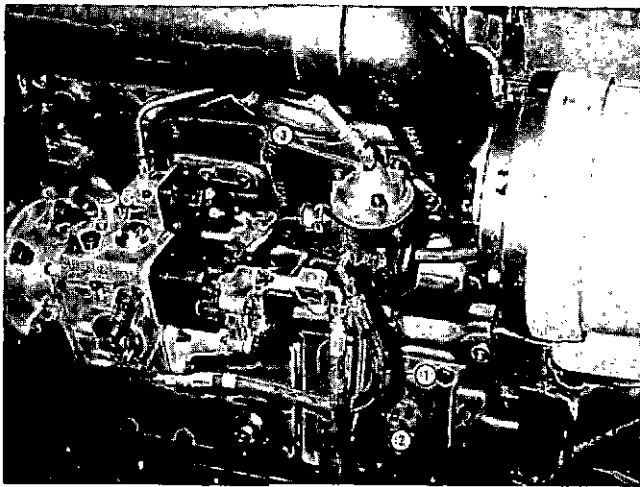

Fig. 10-3-1, V41020. Aneroid control and fuel flow
The aneroid control, Fig. 10-3-1, is a fuel by-pass system that responds to engine air manifold pressure. The aneroid limits fuel manifold pressure when the air manifold pressure is below a preset value. When accelerating the turbocharged engine from speeds below normal operating speed range to approximately 1400 rpm, air manifold pressure is not sufficient for complete combustion unless fuel delivery is reduced to maintain a suitable air-fuel ratio.
1. All turbocharged engines with an aneroid should have the aneroid inlet line (No. 5 hose) (1, Fig. 10-3-1) connected at bottom of fuel pump at outboard fitting (nearest throttle shaft side of pump body). The return line (No. 5 hose) (2) connects at fuel pump inlet connection.
2. If connected, disconnect line (3, Fig. 10-3-1) from aneroid control to engine intake manifold at the aneroid. Use a blunt instrument such as eraser end of a pencil and hold aneroid piston down against stop.